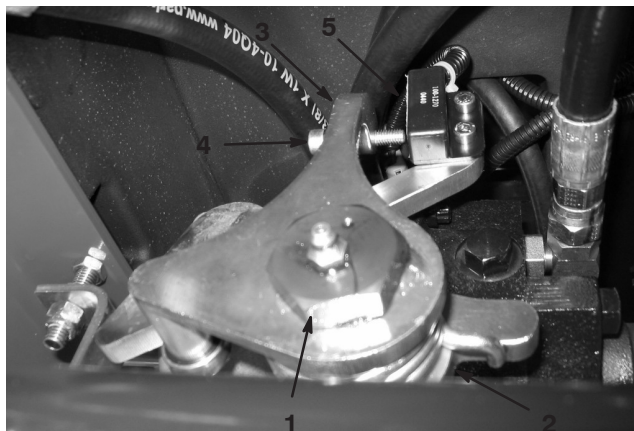

Figure 43
3. Loosen the retaining screw on the opposite side of the traction adjustment cam (Fig. 43).
7. Adjust the screw on the neutral return arm (Fig. 43) until the gap between the end of the screw and the switch contact is .090–.120 inch.